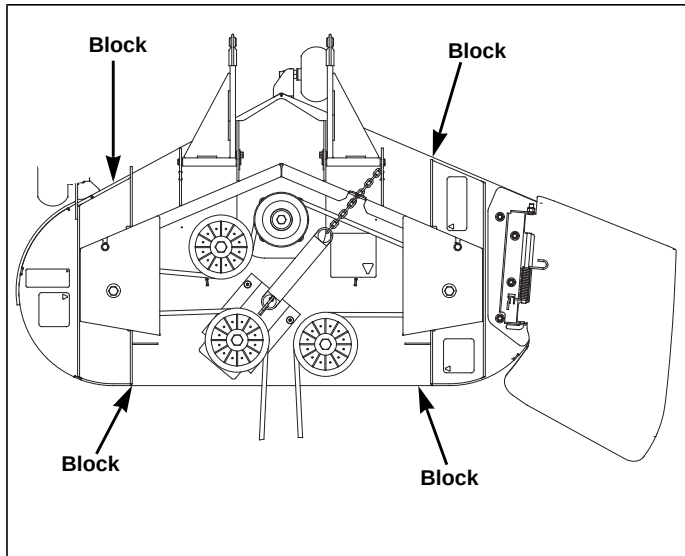

Figure 6-1
3. Place 3" high deck support blocks (two stacked 2" x 4" blocks can be used to create a 3" high support) at the four corners of the deck as shown. **NOTE:** Back of deck will automatically be set 1/4" higher. Figure 6-1
17. Tighten the adjuster bolt until the chain just becomes tight. Then tighten just enough to carry the weight of the front of the deck on that side—to check, move the blocks back and forth; they should move with a slight drag. Figure 6-1
22. Tighten the appropriate nut until the chain just becomes tight, and carries most of the deck weight. Check by moving the block—it should move with a slight drag. Figure 6-1
26. Tighten the appropriate nut until the chain just becomes tight, and carries most of the deck weight. Check by moving the block—it should move with a slight drag. Figure 6-1